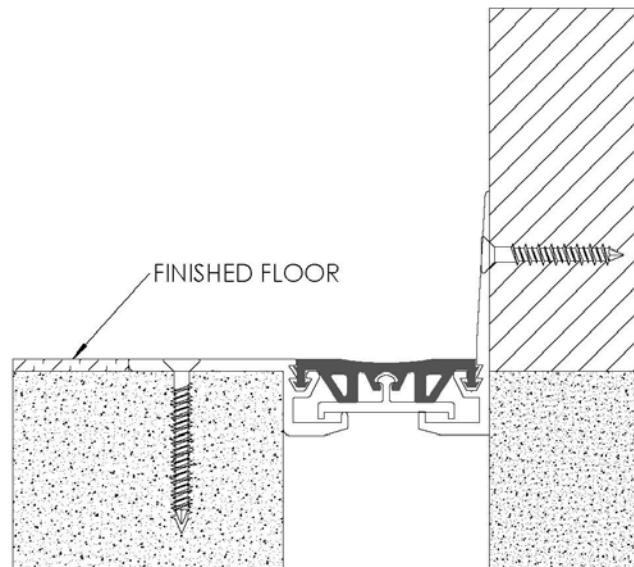

FIGURE 5
5. Finished tile floor (by others) may now be installed. **See Figure 5**